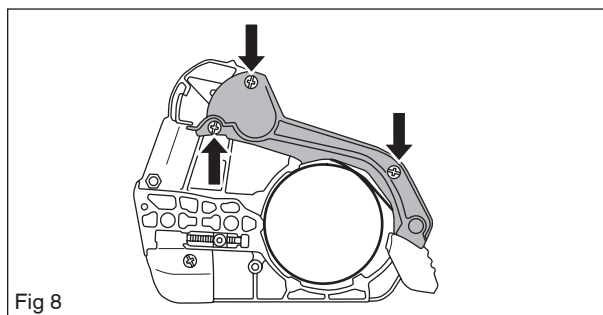

Fig 8
3. Fit the cover over the brake spring using 1-2 Nm tightening torque. See figure 8.